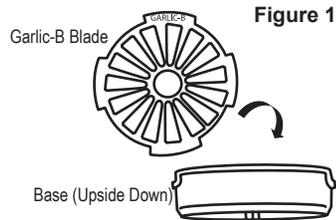

Figure 1
1. Place the Base (red) upside down on a stable surface (Figure 1).